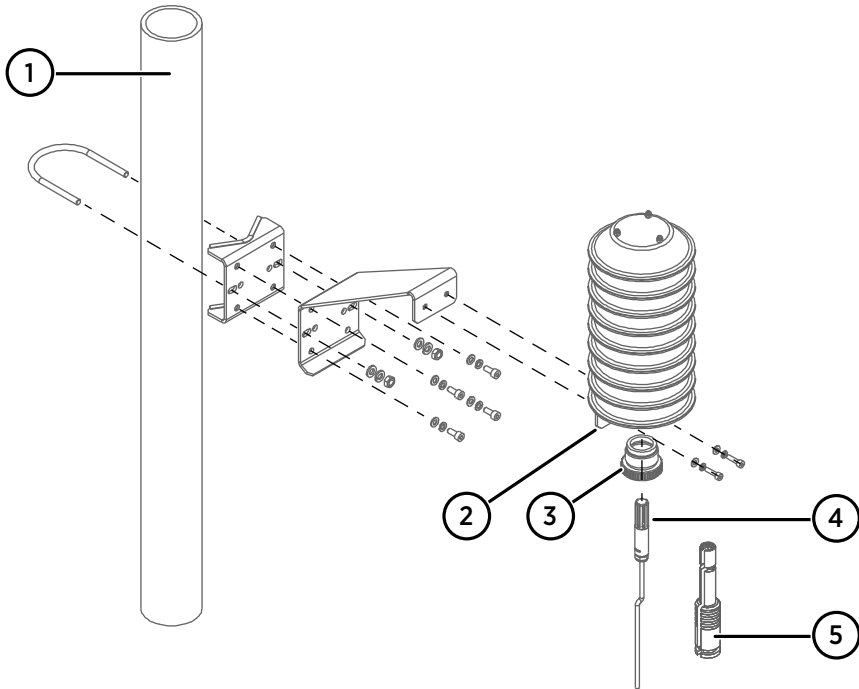

Figure 27 Mounting DTR502B on a pole mast
- 1. Mount the solar radiation shield in the measurement location using the provided mounting accessories, screws, and washers. You can mount the radiation shield to a pole mast as shown in Figure 27 \(page 52\), or to a horizontal beam directly from its support plate.